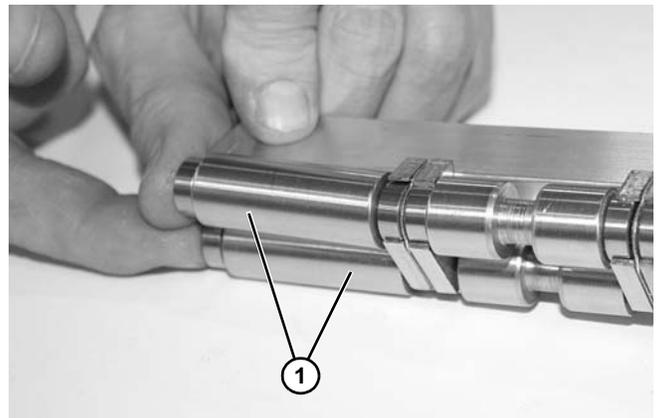

Figure 112
7. Remove spindles (Figure 112, item 1).